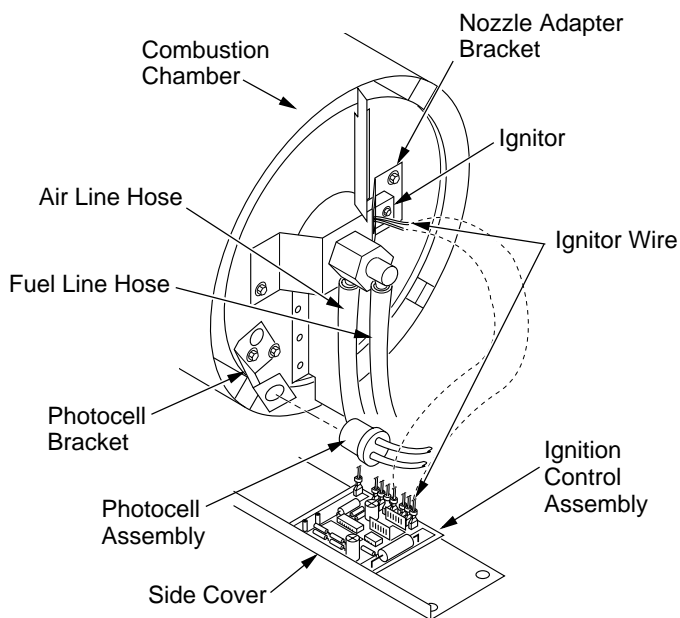

Figure 16 - Disconnecting Ignitor Wires from Ignition Control Assembly
4. Disconnect ignitor wires (yellow) from ignition control assembly (see Figure 16). Pull the ignitor wires up through the hole in the lower shell.
5. Disconnect fuel line hose and air line hose. Remove photocell from photocell bracket (see Figure 16).
11. Route the ignitor wires back down through the hole in the lower shell. Connect wires to the ignition control assembly (see Figure 16).